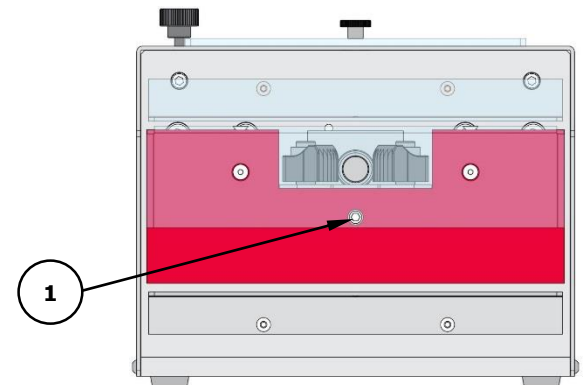

Figure 6.3.2
Adjust the hex screw (1) with the 4mm hex key until the blade opening matches the outside diameter of the cable to be processed. See Figure 6.3.2.